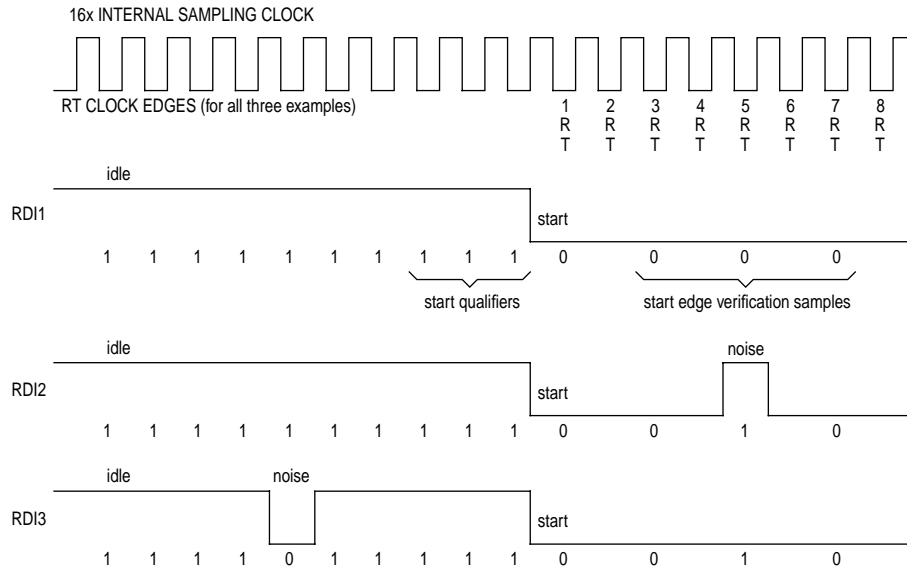
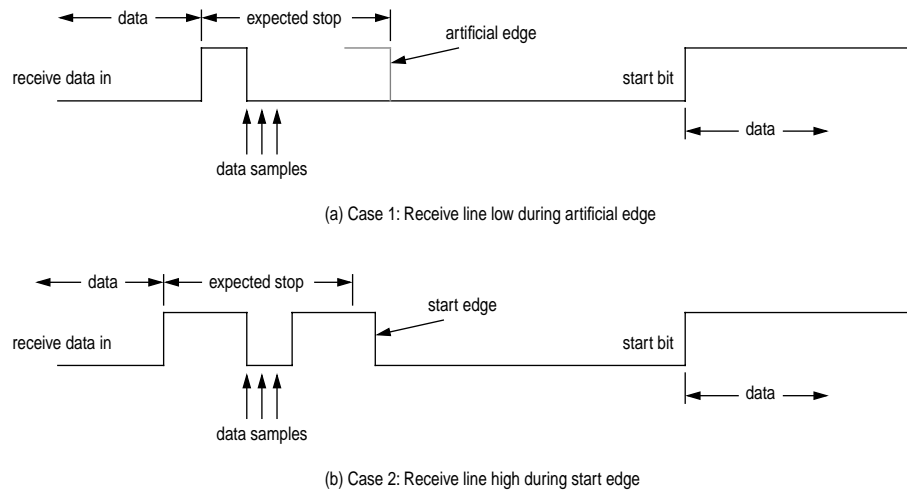

Figure 11-4. Example of Start-Bit Sampling Technique
Figure 11-5. SCI Artificial Start following a Framing Error
If there has been a framing error (FE) without detection of a break (10 zeros for 8-bit format or 11 zeros for a 9-bit format), the circuit continues to operate as if there actually were a stop bit, and the start edge will be placed artificially. The last bit received in the data shift register is inverted to a logic one, and the three logic-one start qualifiers (shown in **Figure 11-4**) are forced into the sample shift register during the interval when detection of a start bit is anticipated (see **Figure 11-5**); therefore, the start bit will be accepted no sooner than it is anticipated.